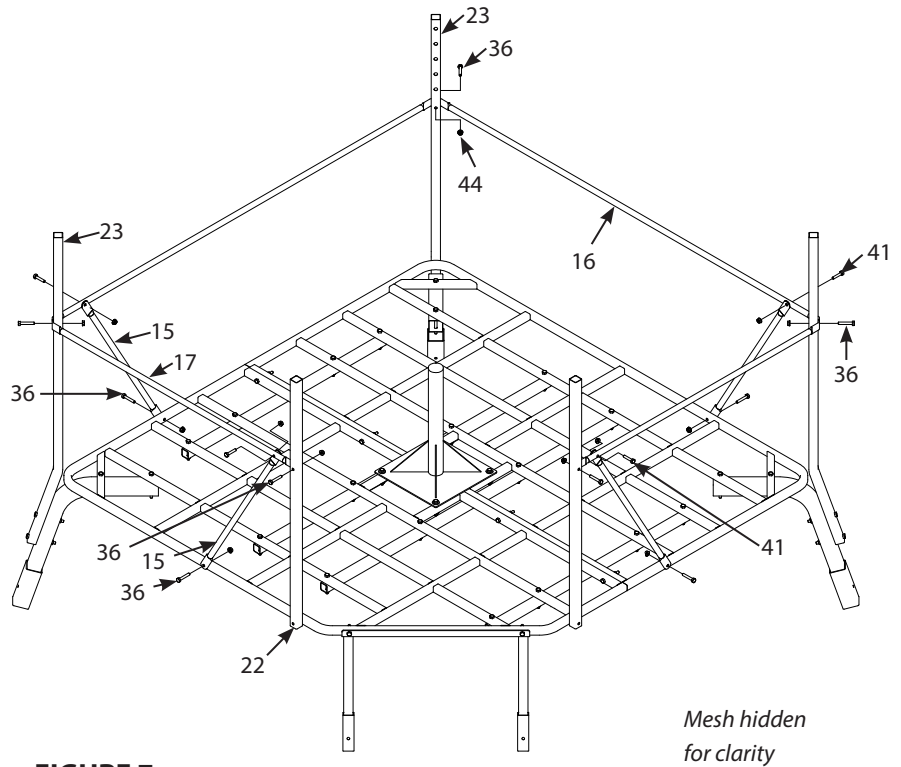

FIGURE 7
7. Attach the two long support braces (16) and two short support braces (17) to the vertical corner supports (23) and vertical entry supports (22) using five 1/4-20 X 1-1/2 IN bolts (36) and 1/4-20 nuts (44). **SEE FIGURE 7.**
Attach one end of the four angled support braces (15) to each of the long support braces (16) and short support braces (17) using one 1/4-20 X 1-1/4 IN bolt (41) and 1/4-20 nut (44). **SEE FIGURE 7.**
Attach the lower end of each angled support brace (15) to the assembled platform using one 1/4-20 X 1-1/2 IN bolt (36) and 1/4-20 nut (44). **SEE FIGURE 7.**